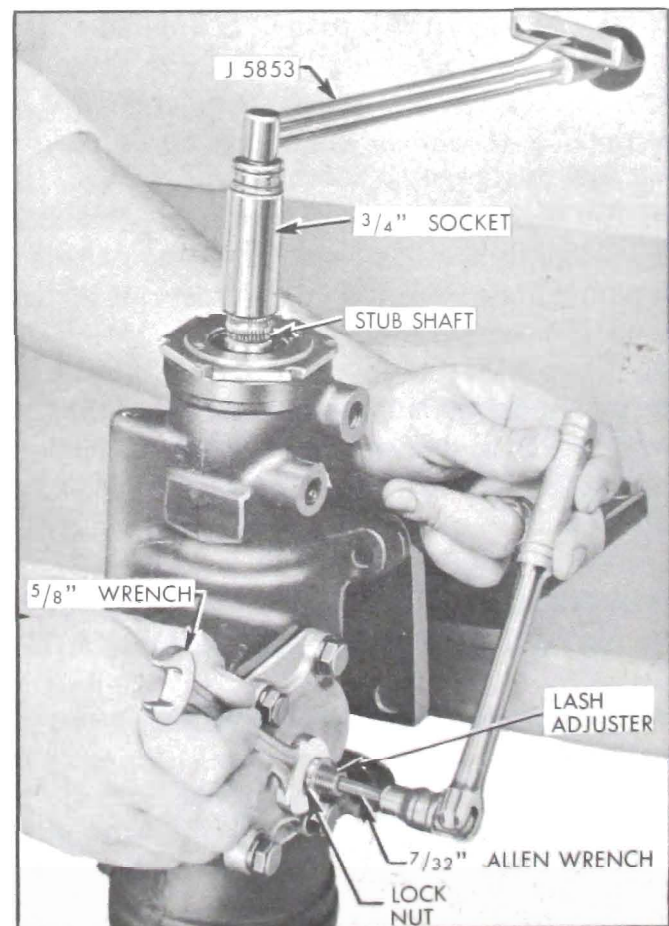

Figure 8-26—Adjusting Pitman Shaft Lash Adjuster
6. If readings are within specifications, adjust pitman shaft lash adjuster to obtain a reading on torque wrench 4 to 8 inch pounds higher than was obtained in Step 5. See Figure 8-26. This reading is taken when rotating stub shaft through "high-point" range with lash adjuster nut tight. Hold lash adjuster from rotating with Allen wrench and tighten lash adjuster nut securely. Total "high-point" pull should not exceed 16 inch pounds.